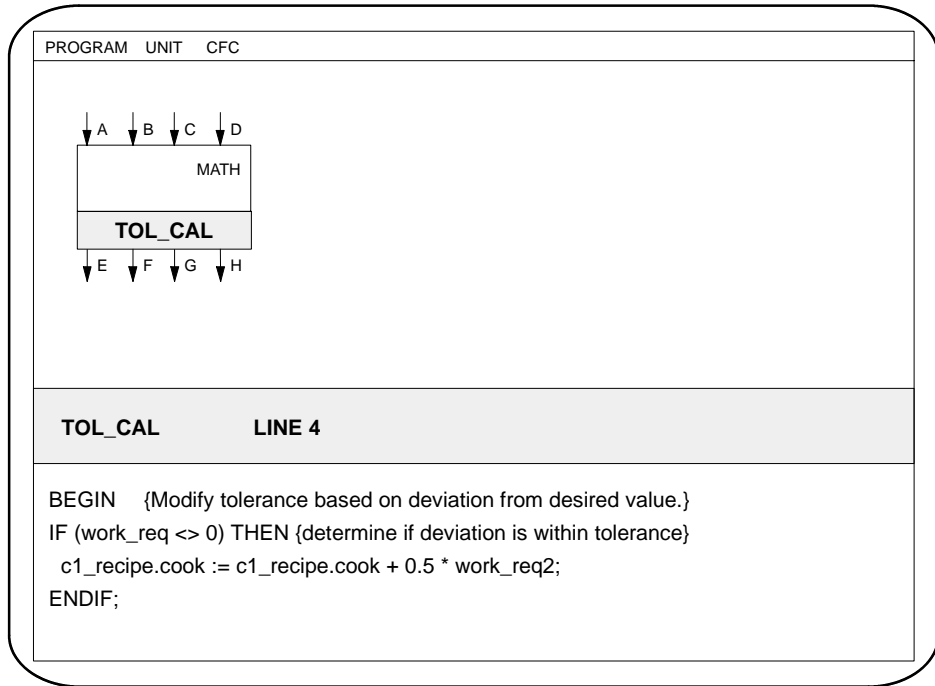

Figure 10-2 Math Block in a CFC
- A math block can appear in a math or interlock CFB in a Continuous Function Chart (CFC). See Figure 10-2.
Figure 10-2 shows a math block in a Continuous Function Chart. Since this is a math CFB, you do not have to use the MATH statement to introduce the section of math code. You can still use the INIT and BODY statements, if appropriate, to control the execution of portions of the math block.